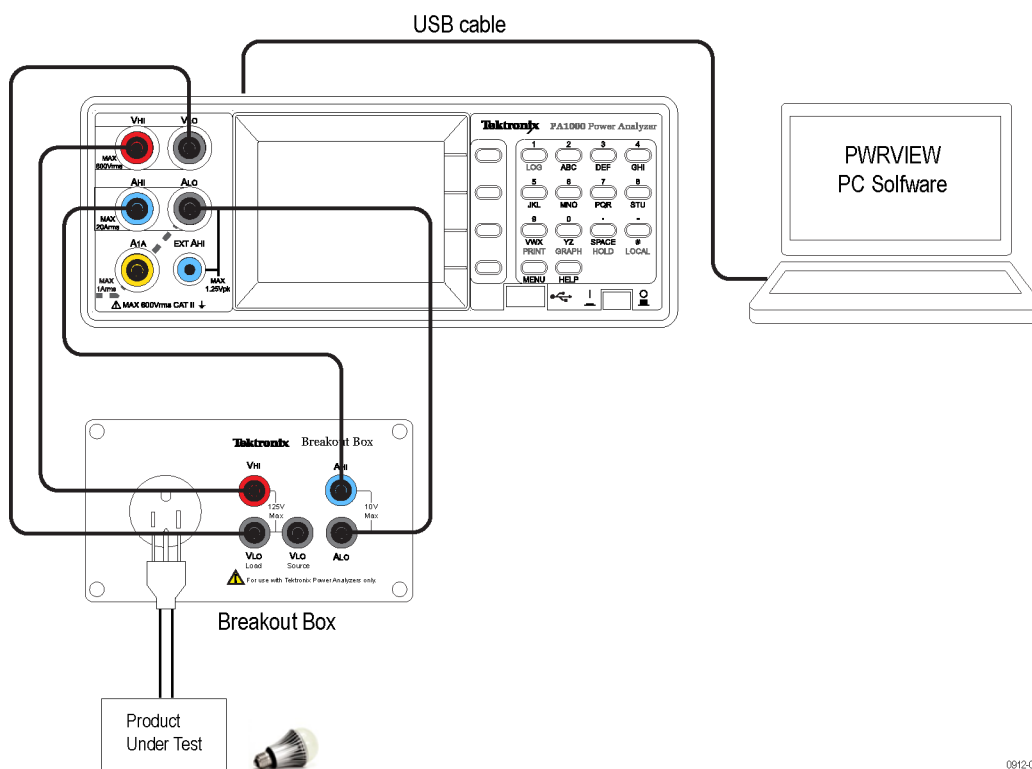

Figure 22: Connection diagram for IEC 61000-3-2 pre-compliance current harmonics test
1. Setup PA1000 and the break out box (BB1000) using color coded test leads. The BB1000 Breakout box provides a safe and easy way to connect a device under test to your PA1000. (See Figure 22.)